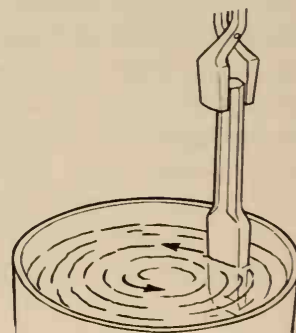

Fig. 7-4. Quenching heated steel. Whirl the metal in a circular motion, with a slight up and down movement at the same time.
2. Quench the metal quickly in the correct cooling solution. Whirl the metal around in the solution so it will cool quickly and evenly, Fig. 7-4. Water is used for most tool steels. The temperature of the water should be between 60 to 80 deg. F.